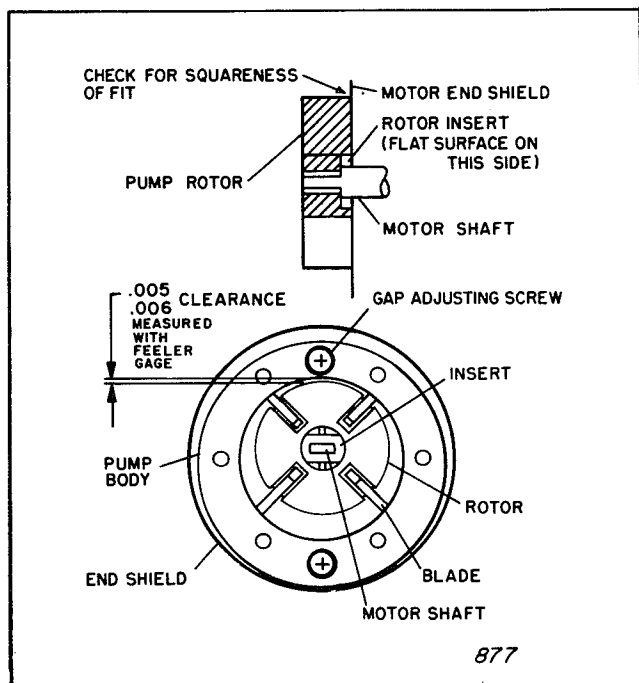

Figure 13. Checking Clearance of Air Pump Rotor
a. Install the insert in the pump rotor as shown in Figure 13, then assemble rotor on the motor shaft. When installing the rotor, take care to keep it perpendicular to the motor shaft. Attach the pump body to the motor with the two recessed screws which were removed to take it off.
b. Adjust the pump body to provide 0.005 to 0.006 inch clearance at the point shown in Figure 13. Measure the clearance with a feeler gage. Spin the motor by hand to be sure the rotor does not rub on the pump body. The proper clearance must be maintained. Be sure the recessed screws are tight after adjusting.